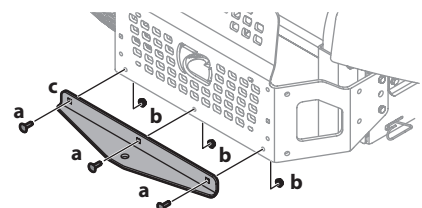

Figure 11
2. Install the hitch bracket (c) as shown in Figure 11 and secure with the hex flange screws (a) and flange lock nuts (b) removed in Step 1.